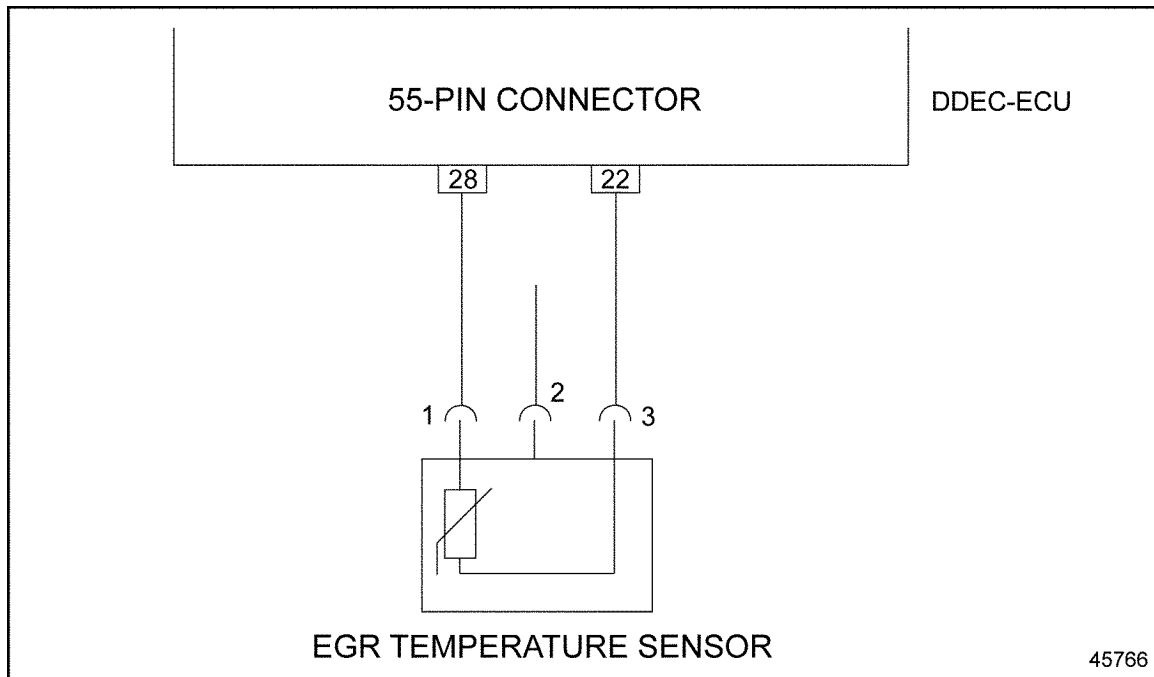

Figure 4-2 EGR Temperature Sensor Pins and 55-Pin Connector Wires
1. Disconnect the EGR temperature sensor connector and check for active fault codes. See Figure 4-2.
2. Bridge pin 1 of the EGR temperature sensor connector to ground and check for active fault codes. See Figure 4-2.
3. Measure the resistance between pin 22 of the 55-pin connector and pin 3 of the EGR temperature sensor connector. See Figure 4-2.